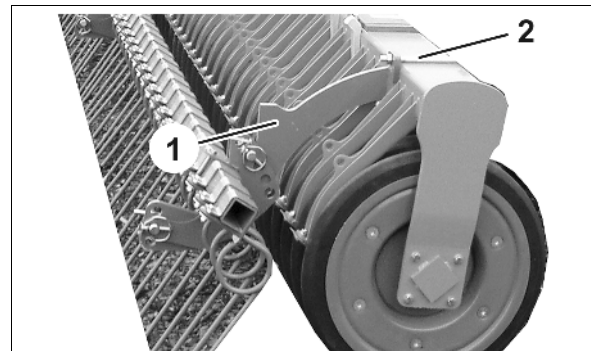

Fig. 16
- o Slacking the clamping brace (Fig. 16/2) on the left and right hand side and remove the harrow with carrier (Fig. 16/1).